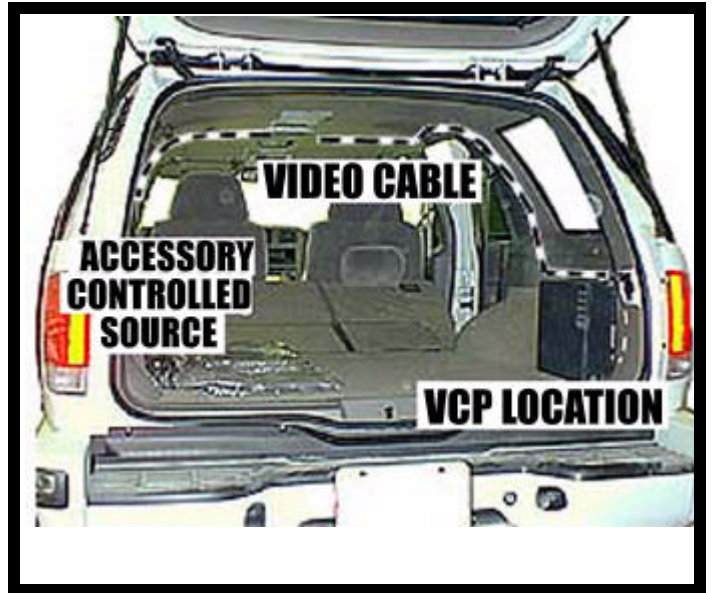

FIGURE 11
12. Install and route all video and audio cables, and any other added component requirements to their respective places in the vehicle. Refer to component installation instructions for wiring diagrams. The suggested routing of the video system cable is as follows: Above the headliner from video system to B-pillar. Rearward to the C-pillar. Down the C-pillar to the floor. Route the power lead to an accessory controlled source. Connect the ground lead to the vehicle chassis. Route the remaining wiring (RCA plugs, Remote Sensor extension, etc.) to the VCP location. See Figure 11. Connect per instructions included with the video system. If video system is to be used as a television, install an appropriate antenna per instructions included with the antenna.